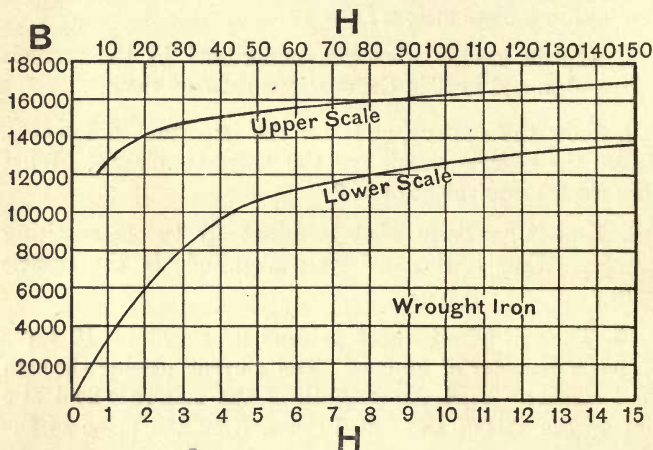
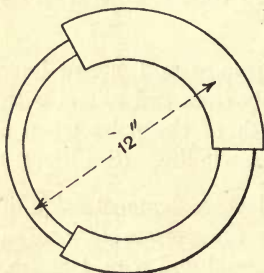
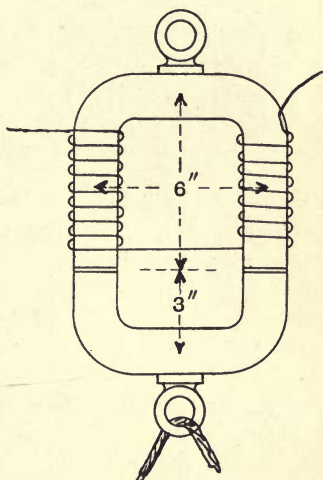

FIG. 2.
FIG. 3.
FIG. 6.
13. A straight piece of wrought-iron wire 1 metre long and 1 mm. diameter is wound uniformly from end to end with 1000 turns of wire. Find the strength of the poles when a current of 1 ampere is passed through the winding. (See Fig. 2.)
16. Find the ampere-turns required to maintain a flux of 10,000 lines round the wrought-iron ring (Fig. 3), the mean diameter of which is a foot, and which is made up of three equal lengths of round bar of 1 cm., 2 cms. and 3 cms. diameter respectively. (See Fig. 2.)
33. Fig. 6 shows an electromagnet constructed throughout of wrought-iron bar of 2" diameter. If there are 50 turns on each limb, find the necessary current to support 2 cwt. (See Fig. 2 for B—H curve.)